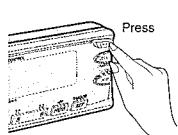

Fig. 4
- ① Switch off the power.
- ② Press [OPEN]. The removable face plate will be opened. (→ Fig. 4)